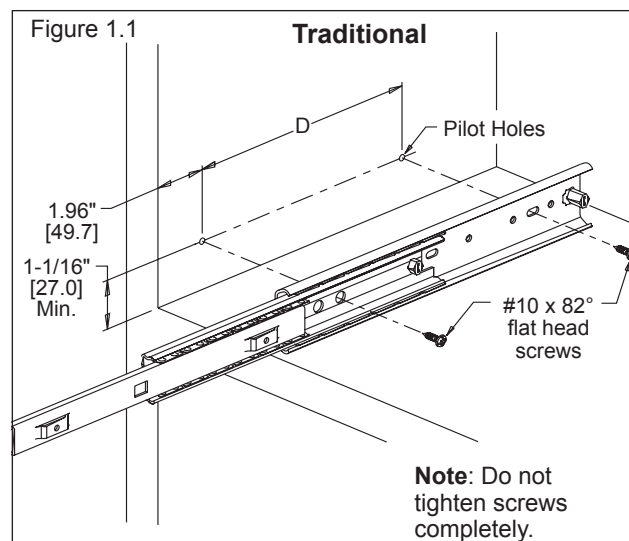

Figure 2
1. Refer to Figure 2 for front and rear mounting rail hole locations and install screws through vertical slots.